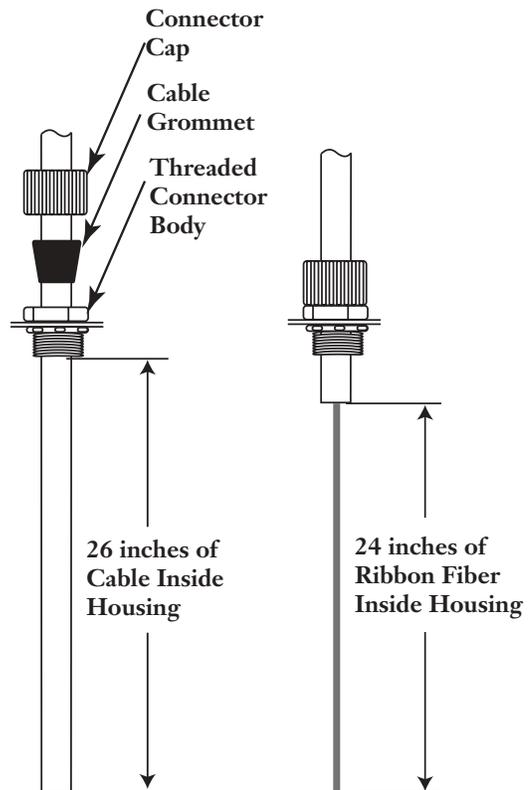

Figure 4 — Strip Cable
- 7.1** Slide the connector body cap and appropriately sized cable grommet over the cable as shown in Figure 4.
- 7.2** Determine the cable entry location. Remove the appropriate entry grommet from the housing. Install the threaded connector body into the WBM as shown in Figure 4.
- 7.3** Feed the cable through the threaded connector to the prescribed length as shown in Figure 4. Make sure approximately one or two inches of jacketed cable are inside the unit after the stripping procedure on the ribbon fiber.
- 7.5** Strip the ribbon cable to 24 inches as shown in Figure 4.